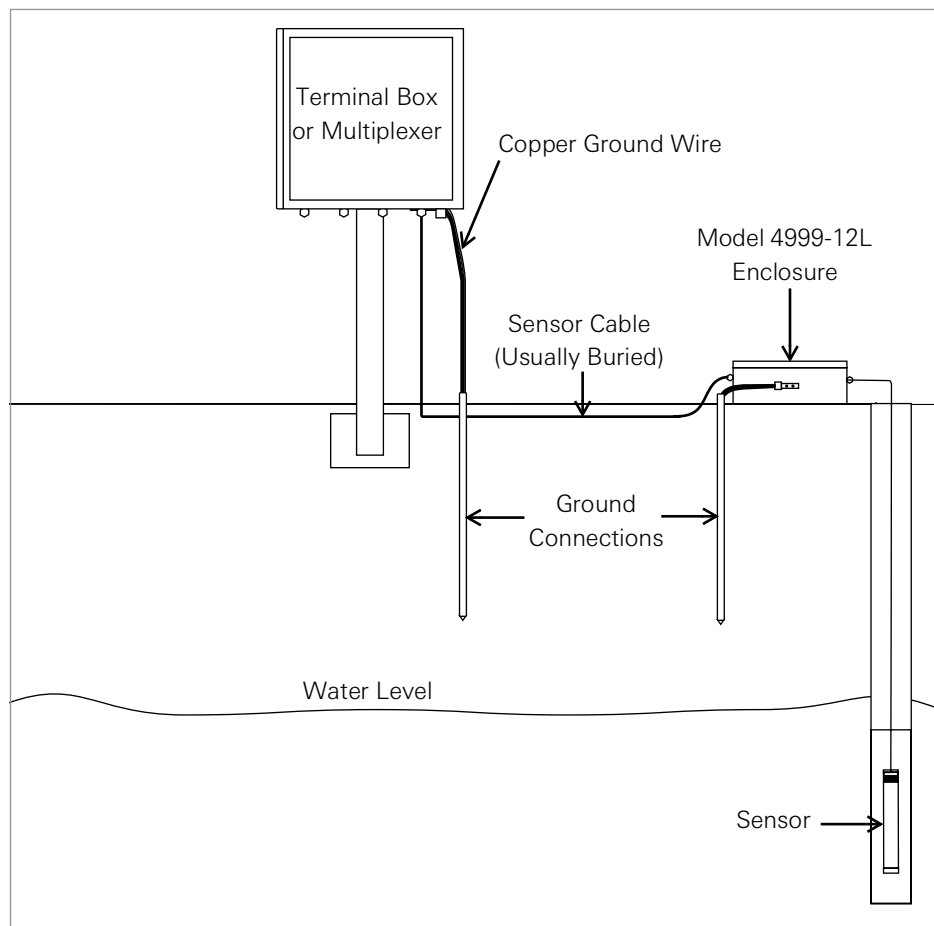

FIGURE 7: Recommended Lightning Protection Scheme
- Placing a Lightning Arrestor Board (Model 4999-12L), in line with the cable, as close as possible to the installed sensor (see Figure 7). These units utilize surge arrestors and transzorbts to protect the sensor. This is the recommended method of lightning protection.